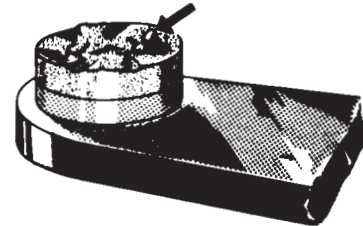

Figure 74-3. Contact Points
7. Remove the breaker cover and harness securing screws and nuts and separate cover from magneto housing. Check contact assemblies to see that cam follower is securely riveted to its spring. Examine the contact points for excessive wear or burning. Figure 74-3 shows how the average contact point will look when surfaces are separated for inspection. Desired contact surfaces have a dull gray, sandblasted (almost rough) or frosted appearance over the area where electrical contact is made. This means that points are worn in and mated to each other, thereby providing the best possible electrical contact and highest efficiency of performance.
8. Minor irregularities or roughness of point surfaces are not harmful (refer to Figure 74-3, center), neither are small pits or mounds, if not too pronounced. If there is a possibility of pit becoming deep enough to penetrate pad, Figure 74-3, right, reject contact assembly.